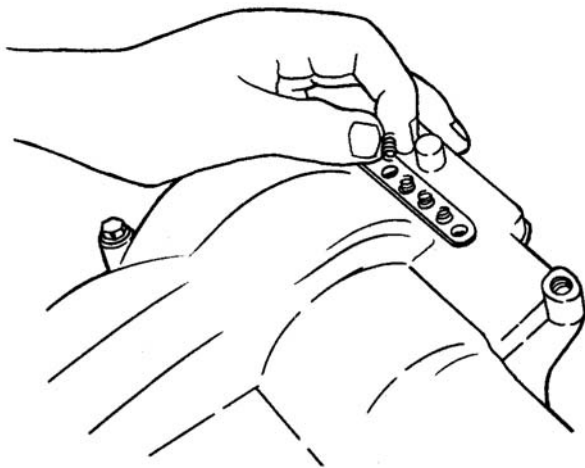

Figure 5-62. Installing Detent Springs
10. Install detent springs into lower housing. See Figure 5-62.